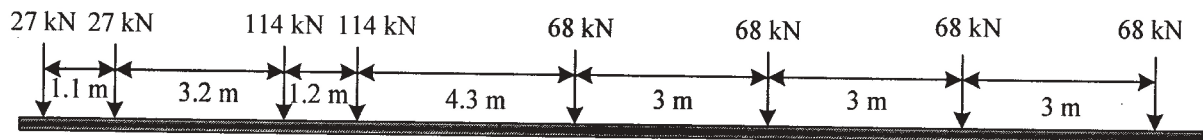

Fig. 4
- Q4)** The effective span of a deck type plate girder two lane highway bridge is 30 m. The reinforced concrete slab is 250 mm thick inclusive of the wearing coat. The foot paths are provided on either side of the carriage way. Design the maximum section of plate girder, if the bridge is to carry IRC class A loading as shown in Fig. 4. [25]